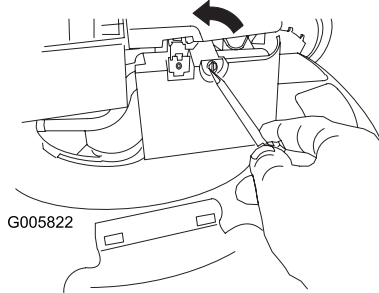

Figure 37
1. Use a screw driver to open the air filter cover (Figure 37).